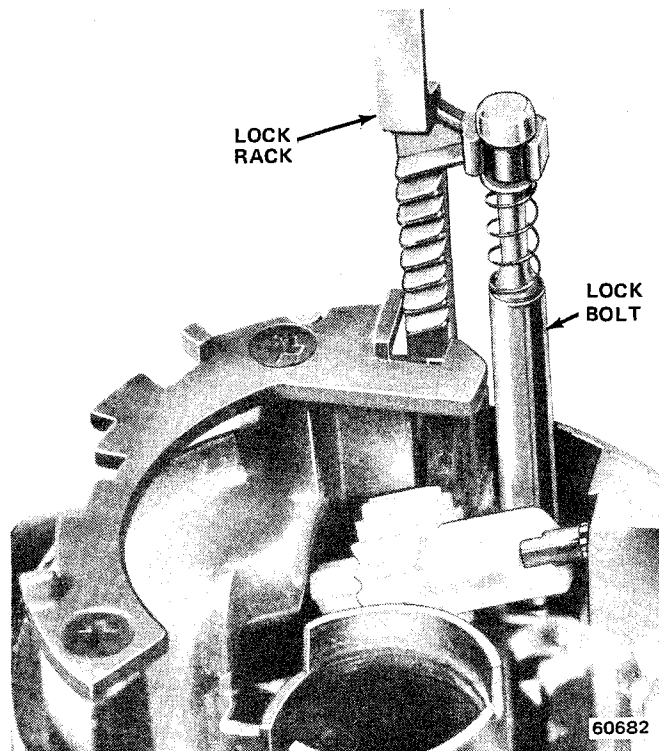

Fig. 2J-32 Lock Rack and Lock Bolt Installation
NOTE: Block tooth of lock rack must engage block tooth of sector (fig. 2J-18).
(14) Install nylon thrust cup in upper housing with flared end of cup facing outward (fig. 2J-27).
(15) Rotate shift bowl counterclockwise to stop and install upper housing. Tighten housing attaching screws to 60 inch-pounds torque.